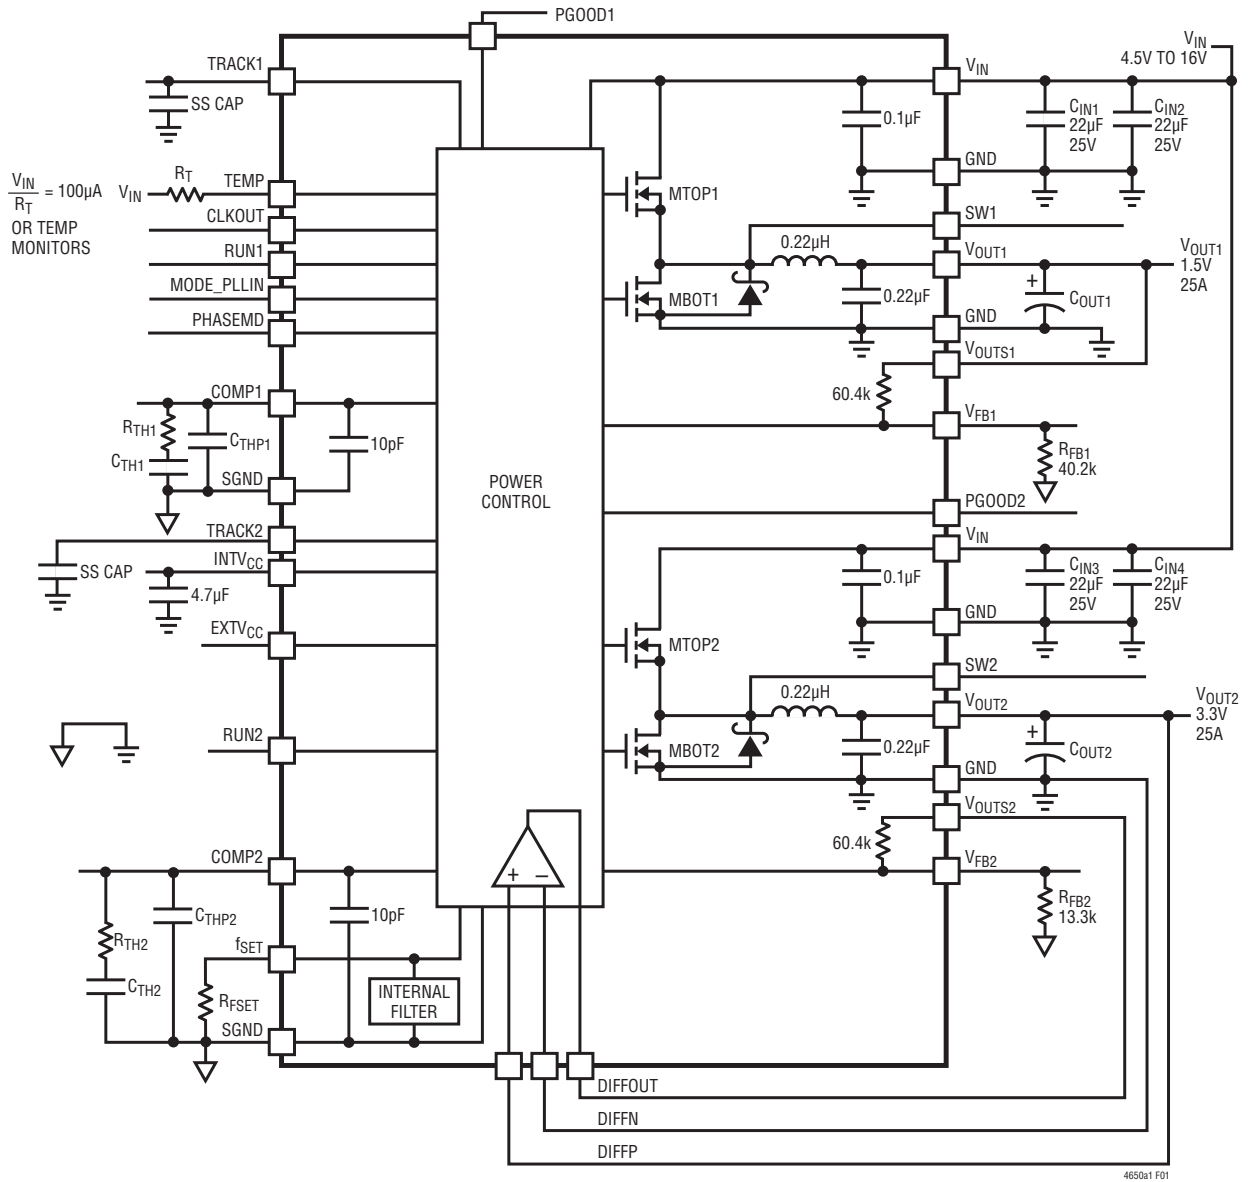

Figure 1. Simplified LTM4650A-1 Block Diagram
**DECOUPLING REQUIREMENTS**  $T_A = 25^\circ\text{C}$ . Use Figure 1 configuration.
The PWM controller has an internal 0.6V reference voltage. As shown in the Simplified Block Diagram (Figure 1), a 60.4k $\Omega$  internal feedback resistor connects between the  $V_{OUTS1}$  to  $V_{FB1}$  and  $V_{OUTS2}$  to  $V_{FB2}$ . It is very important that these pins be connected to their respective outputs for proper feedback regulation. Overvoltage can occur if these  $V_{OUTS1}$  and  $V_{OUTS2}$  pins are left floating when used as individual regulators, or at least one of them is used